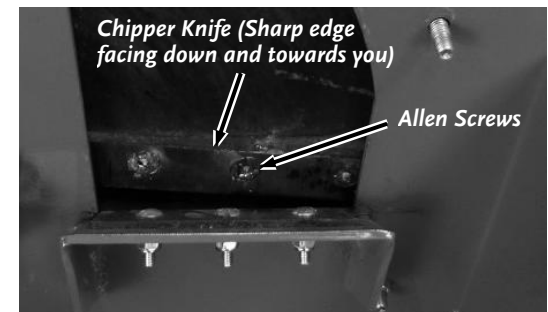
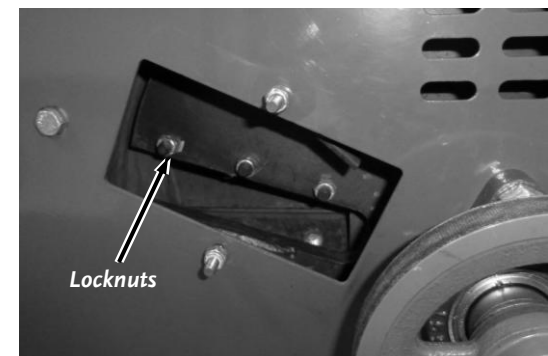

Figure 40
Figure 41
2. Rotate the Flywheel using a stick until the three countersunk Allen Screws (**Figure 40**) and Locknuts (**Figure 41**) attaching the Knife to the Flywheel are visible through the Access Openings.
3. Clean out the heads of the Allen Screws with an Awl or Sharp Tool (**Figure 40**).
5. While holding the Allen Wrench, remove the Locknut using a 1/2" socket (**Figure 41**).
8. Install a new or sharpened Knife as shown with the Knife edge facing down and towards you (**Figure 40**) and finger tighten the Allen screws and Lock Nuts (use the new hardware supplied with a new Knife kit) to hold the Knife to the Flywheel.